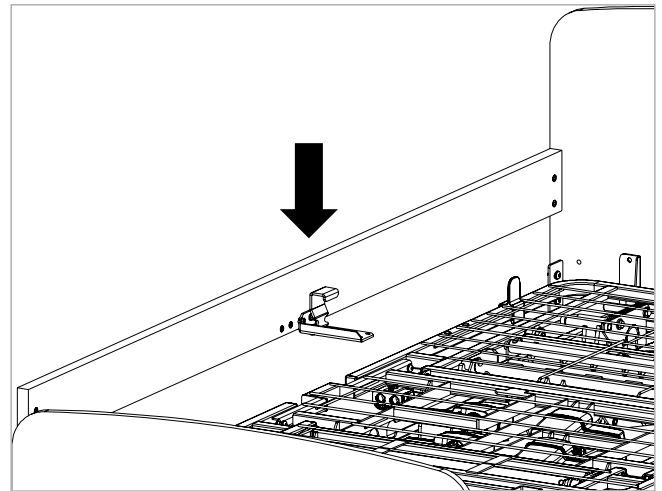

Figure 9.6
7. Mount the side panels onto the bed frame as shown in Figure 9.6. Position the side panel between the headboard and footboard and fit the centre bracket claw over the bed frame side bar.